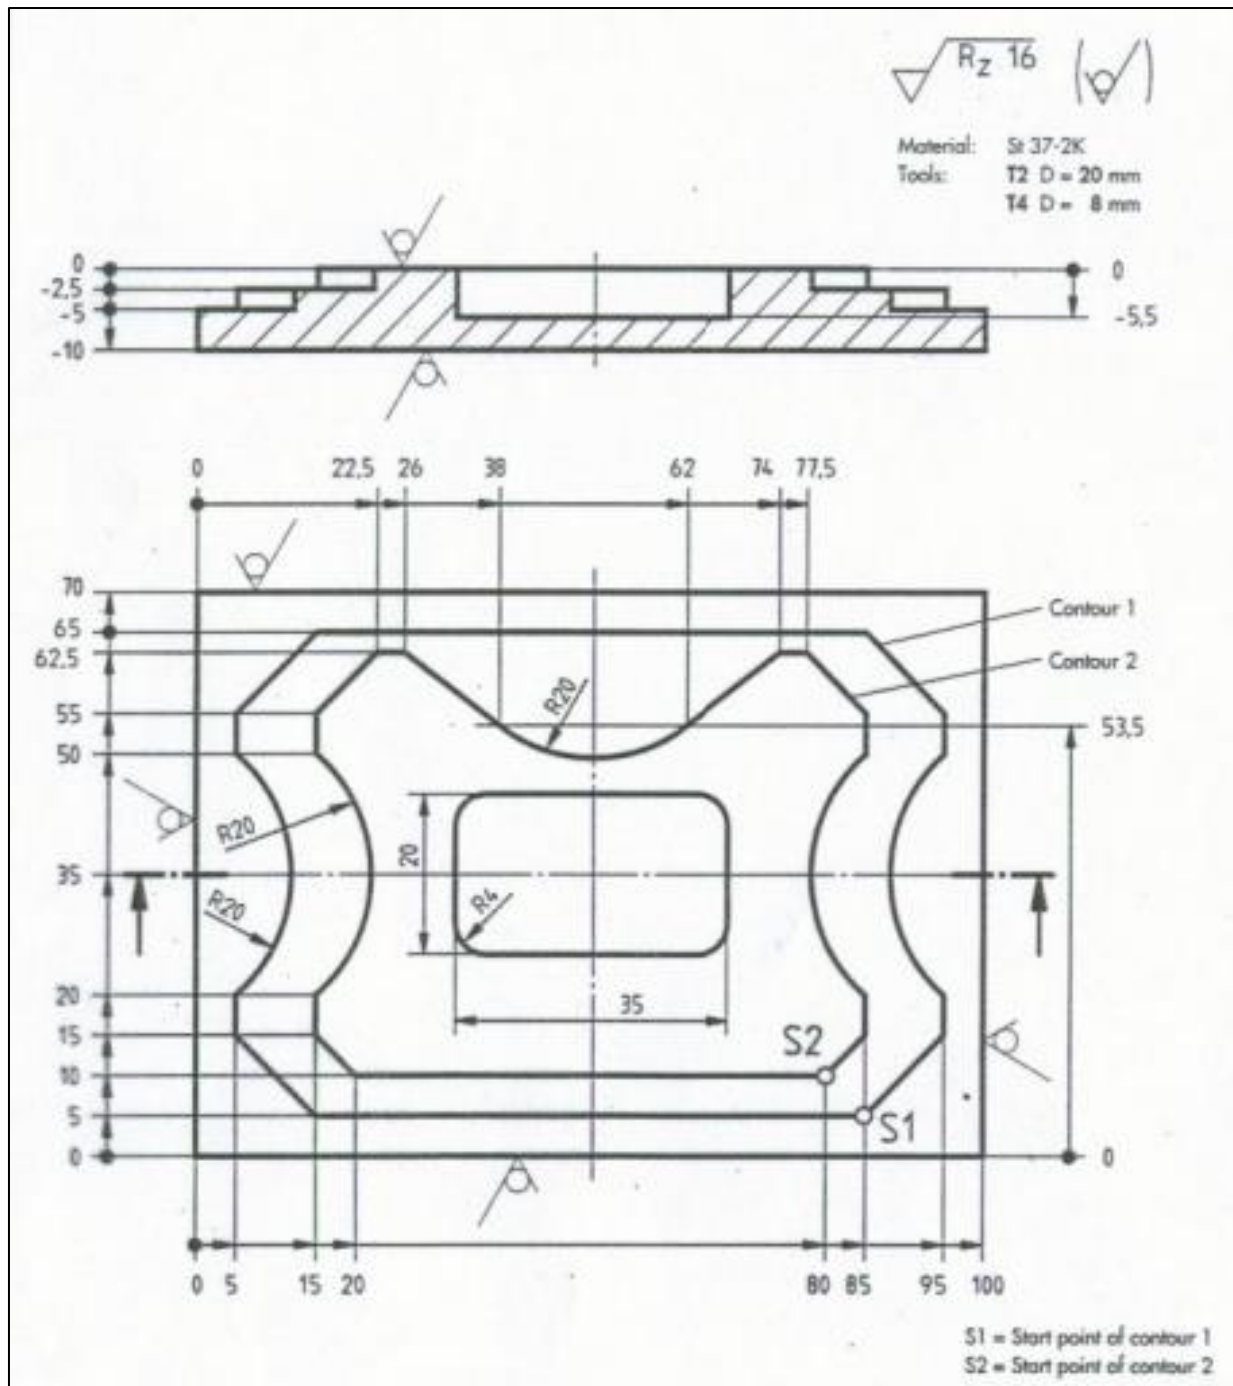

Figure QU5: Milled Plate
(b) Write a concise part program to machine the component shown in Figure QU5 on a CNC milling machine. Given that the milling tool T2 which is of diameter 20 mm operates with a feedrate (F) = 80 mm/min and the spindle speed (S) = 1392 rev/min while the slot drilling tool T4 which is of diameter 8 mm operates with a feedrate (F) = 120 mm/min and spindle speed (S) = 1193 rev/min. Given also that the maximum depth of cut for the milling tool T4 is 6 mm. [16]